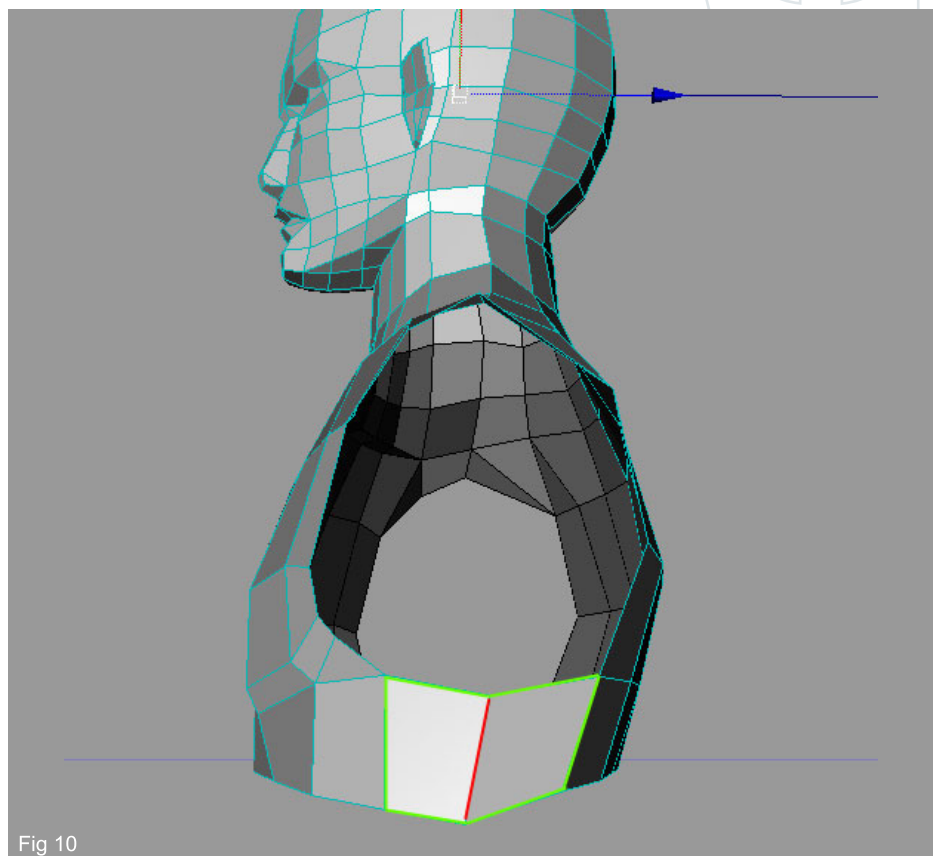

Fig 10
10. In points mode, create the polygon indicated by green lines (Fig10). Then add a cut like shown.